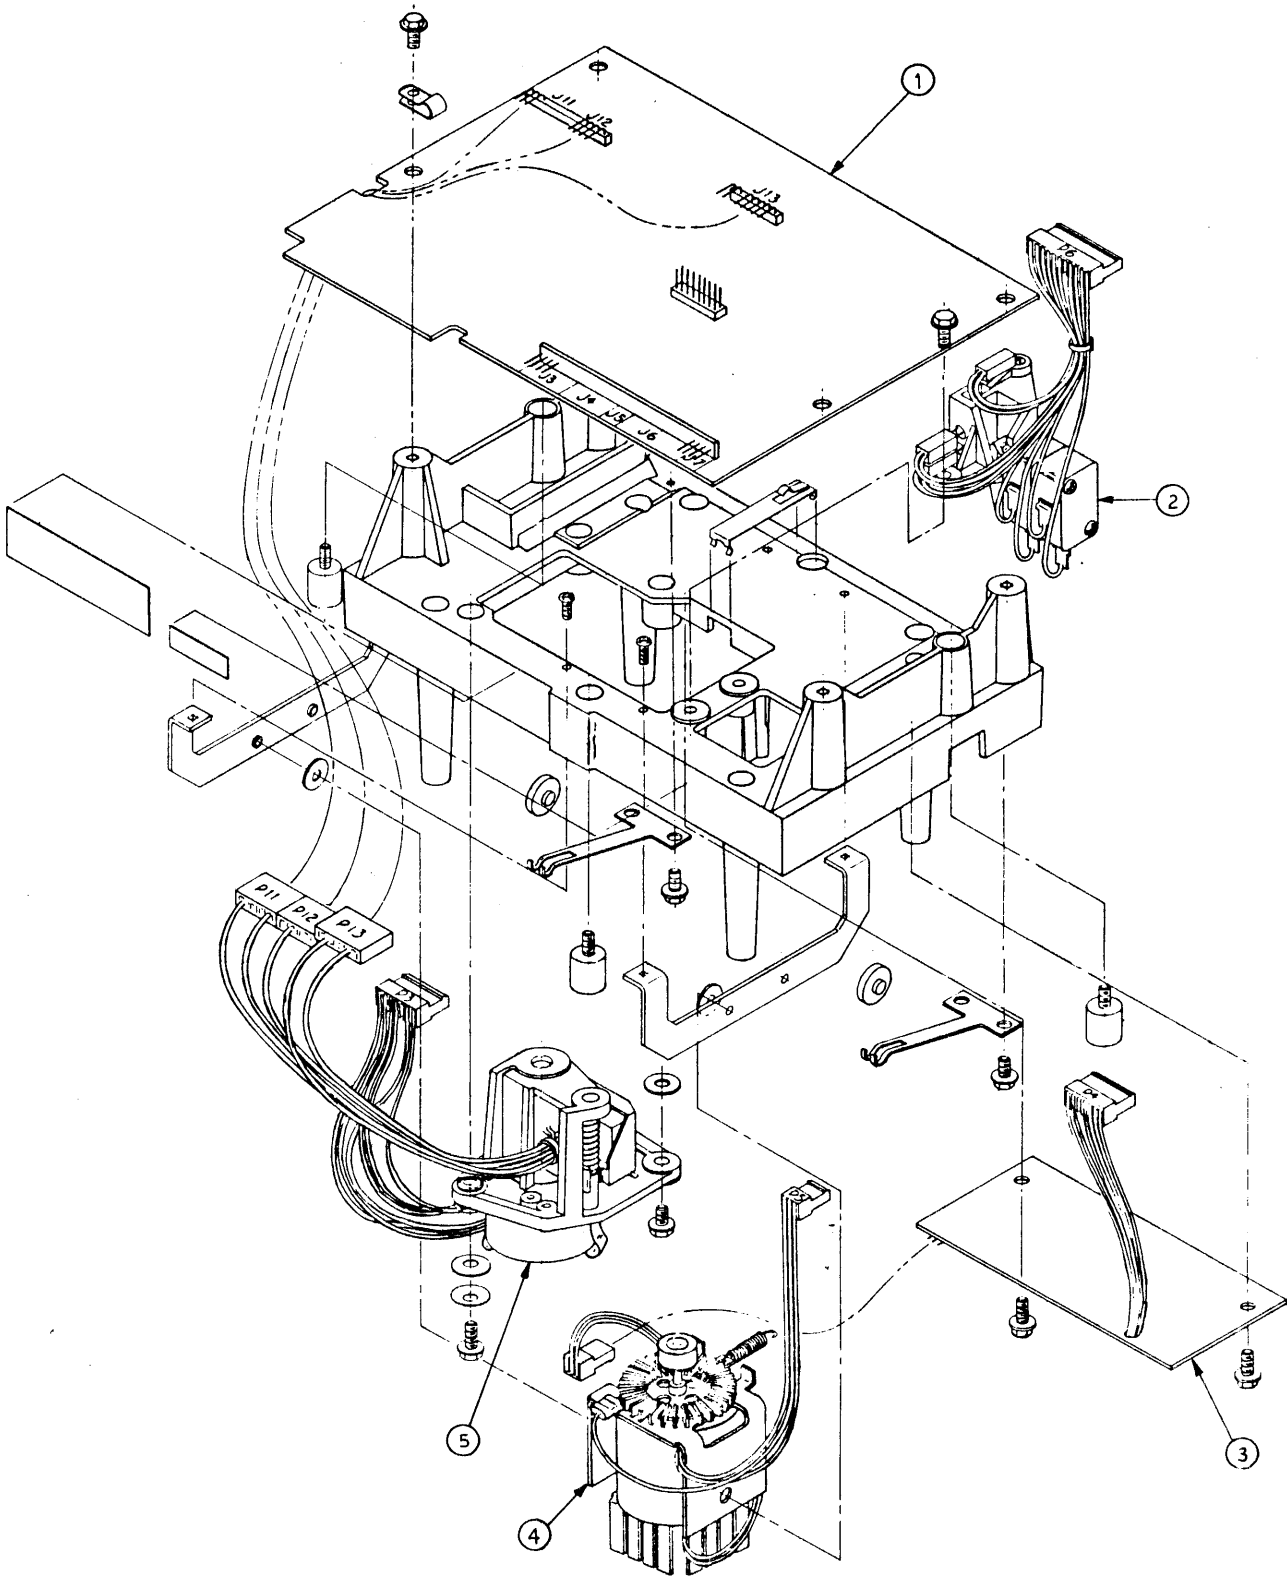

Figure 7-3. Motor (With Fan) Removal Diagram
**7.2.4 Drive Motor With Fan Assembly (Figure 7-3)**